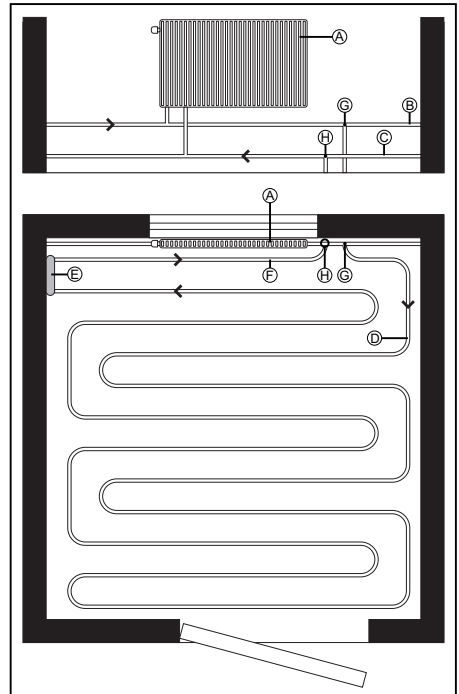

Figure 4. Outline diagram for piping.
- As there can be a great difference in temperature between the beginning and end of the floor heating circuit, the floor heating pipes should be mounted in a so-called "double coil" with a c/c distance of 150 mm. In order to facilitate the laying of the floor heating coil, a diagram of the coil and the room should be made in according with the example in "Figure 4" (please observe the direction of flow specified by the arrows).
- Then attach the pipe with the coupling on the mini loop valve's return (8). Tighten securely with a spanner.
- Lay the pipe the shortest route to the previously determined connection point for the radiator circuit's return (see "Figure 4", Item (F)). Cut the pipe with sufficient allowance for cutting for the connection to the existing heating system; the connection should be carried out by a specialist. The pipe should be cut with pipe cutters or a carpet knife. Please note that the cut should be at right angles and the cut surface should be clean and level.
- Then attach the pipe with the coupling on the mini loop valve's supply (5). Tighten securely with a spanner.
Tramp down the pipe in the clip rail and lay the loop in a so-called "double coil" in accordance with the outline diagram ("Figure 4"). When the installation is complete, the c/c distance between the pipes should be 150 mm.
When the entire floor areas is covered with floor heating pipes (max 35 m of piping), the pipe should be cut with sufficient allowance for cutting for connecting to the existing heating system (see "Figure 4", Item (G)). The connection should be carried out by a specialist